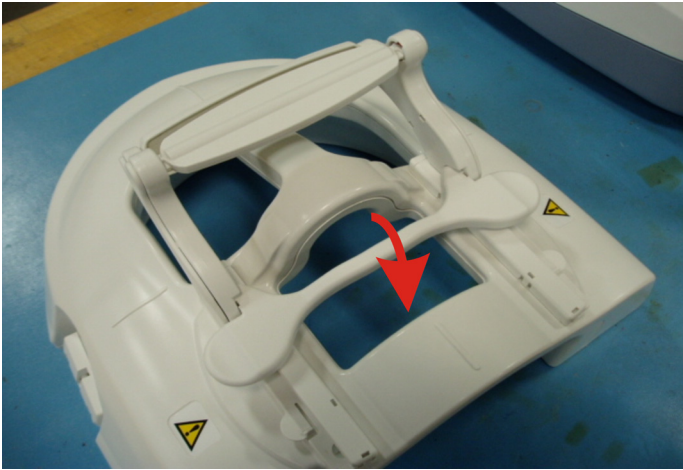

Figure 3-13 Push the locking bar down
9. Gently push the locking bar on the mirror down to lock the mirror in place. See figure 3-13.